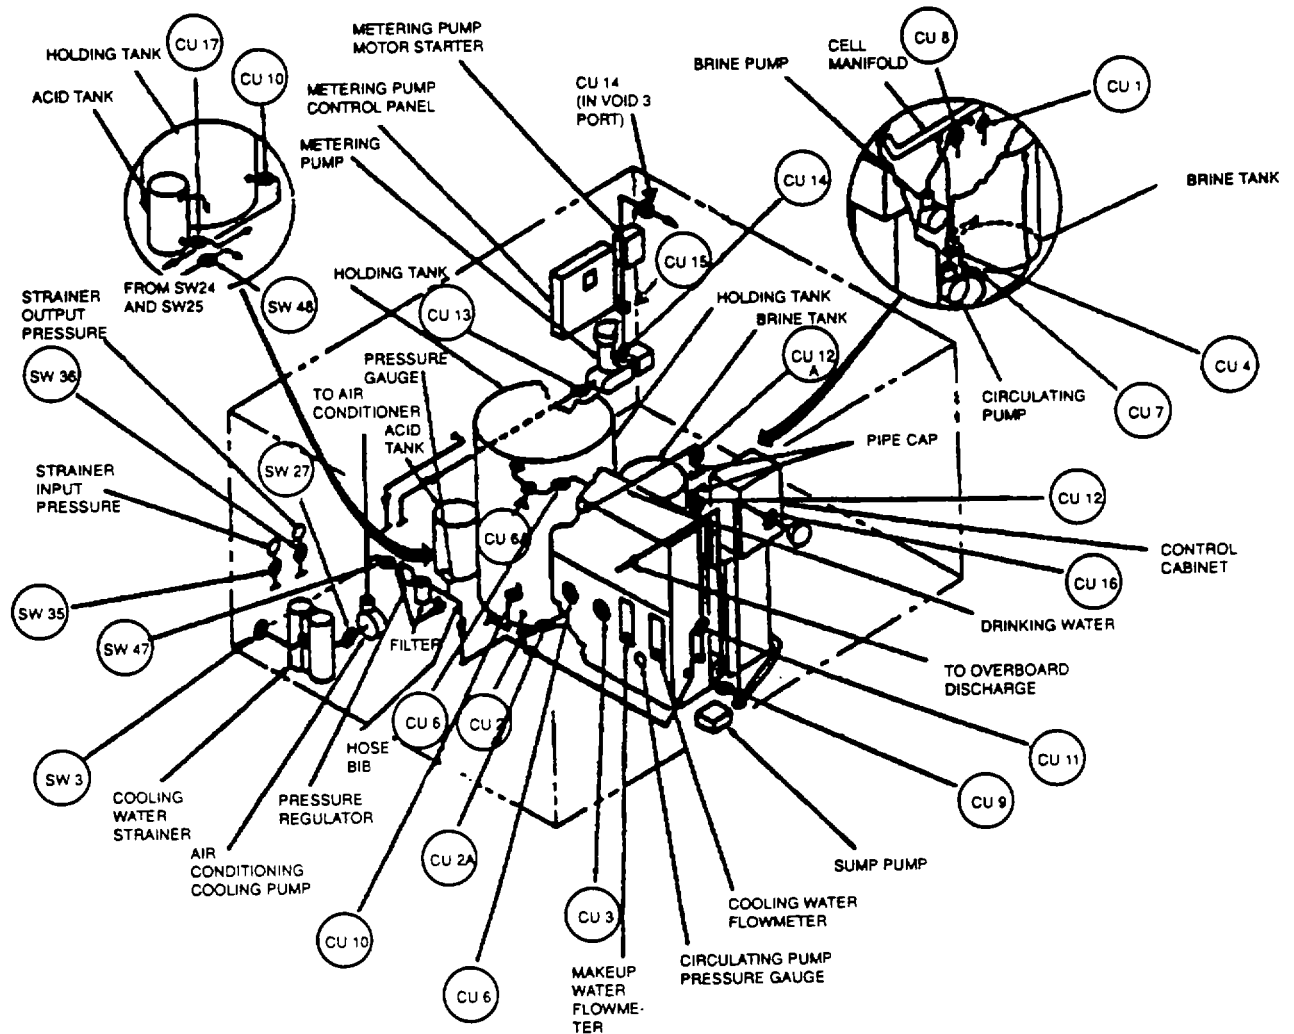
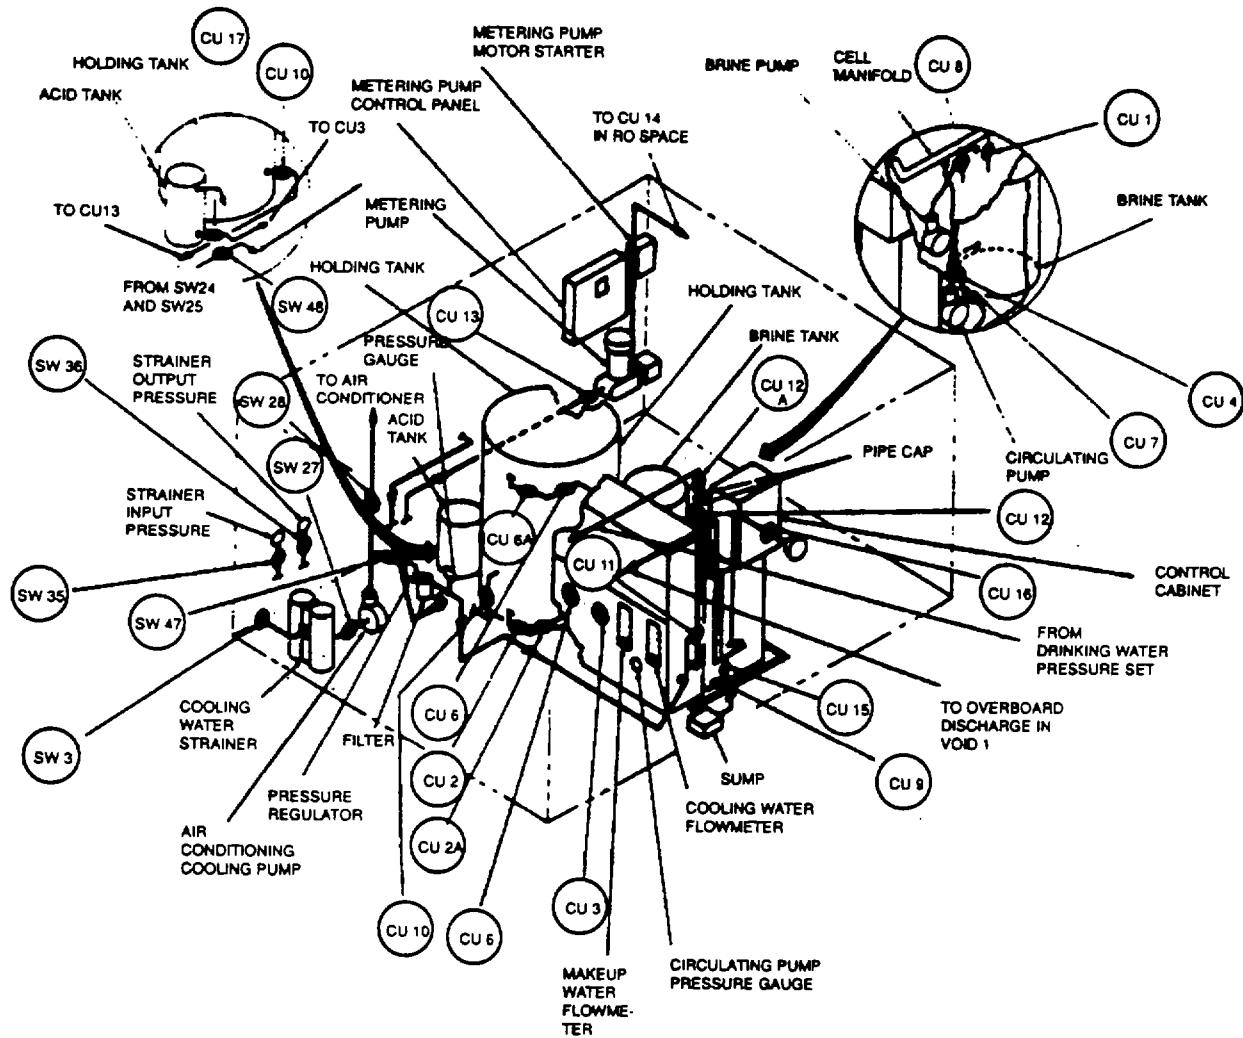
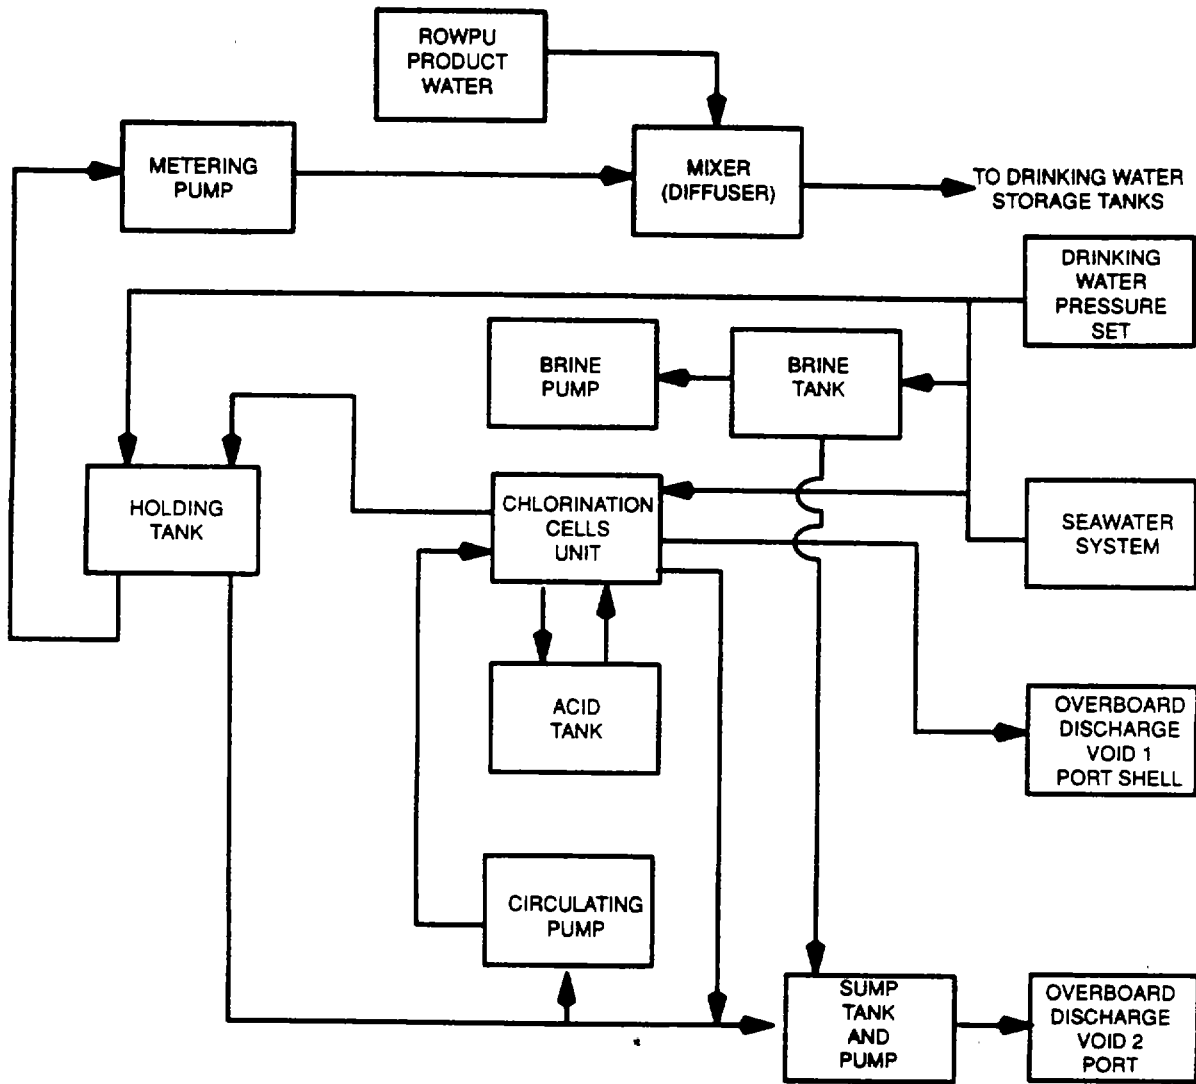

Figure 1-2. Chlorination System Installation (Barge 1)
Figure 1-3. Chlorination System Installation (Barges 2 and 3)
Figure 1-4. Chlorination System General Working (Block) Diagram
**1-7 Description.** The chlorination system produces chlorine in a sodium hypochlorite solution. A metering pump adds this solution, upon demand, to water processed by the ROWPU system just before the water enters the four drinking water storage tanks. The chlorination system's major components are shown in Figure 1-2 for Barge 1 and in Figure 1-3 and for Barges 2 and 3. Major components are listed in Table 1-1. A chlorination system general working (block) diagram is in Figure 1-4, and a system flowchart is in Figure 1-5. Chlorination system installation is shown on drawings listed in Appendix A.